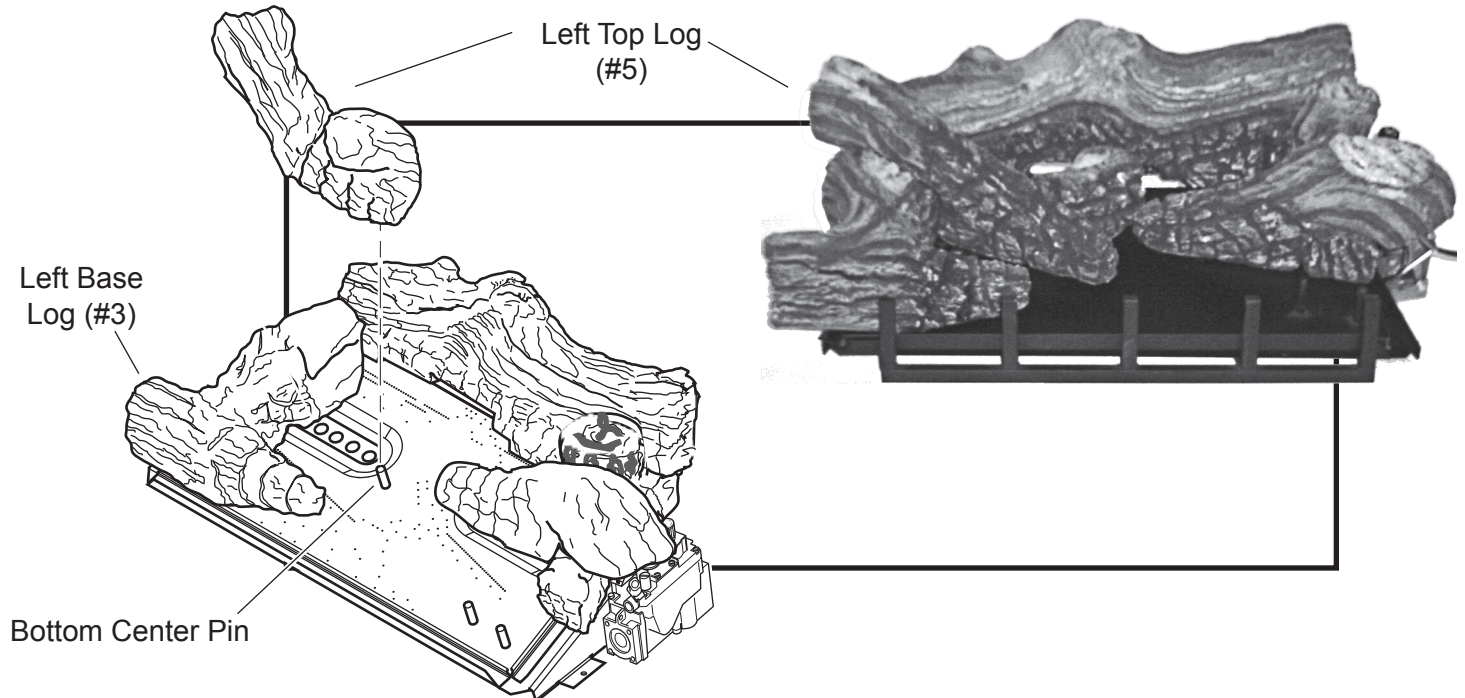

Figure 23 - Installing Left Top Log (#5)
5. Place right end of left top log (#5) on bottom center grate pin. Rest the left end of left top log (#5) on the left base log. See *Figure 23*.